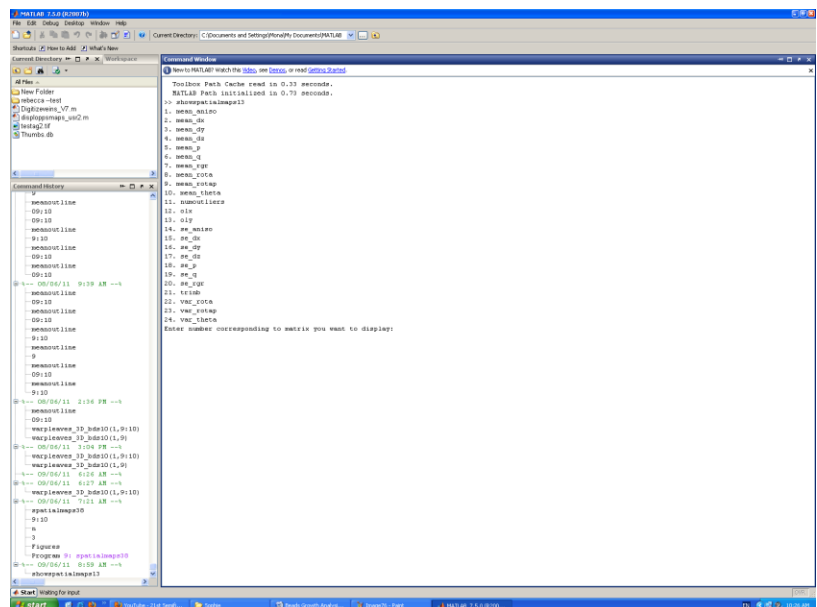

Figure 27. Choosing a matrix
3. The program can display 24 matrixes (Figure 27):